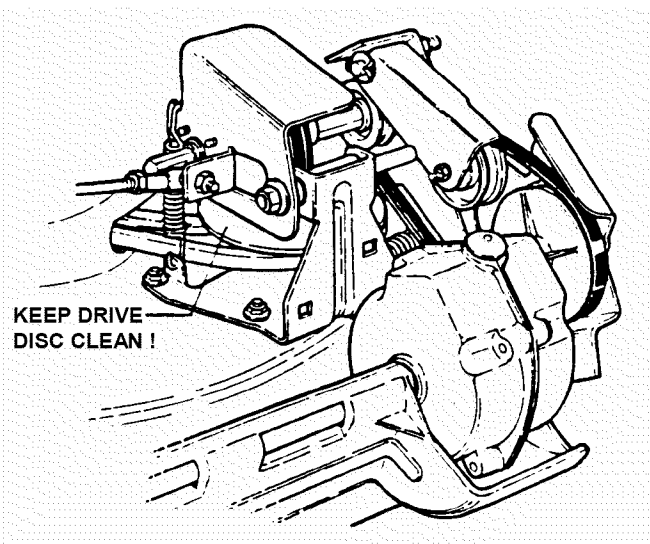

FIGURE 3.3
**NOTE:** Snapper "00" Grease (Part No. 2-9443) is available at your SNAPPER dealer. Do not spill grease or oil on surface of drive disc. See Figure 3.3.